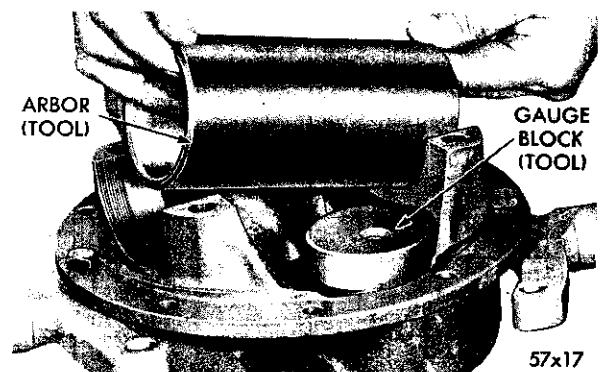

Fig. 21—Installing Arbor
(2) Position arbor SP-561 (part of Tool C-758) in the differential bearing pedestals of the carrier (Fig. 21). Center the arbor so that an approximate equal distance is maintained at both ends. Position the differential bearing caps and attaching bolts on the carrier pedestals. Insert a piece of .002 inch feeler stock between the arbor and each cap, and tighten the cap bolts securely.